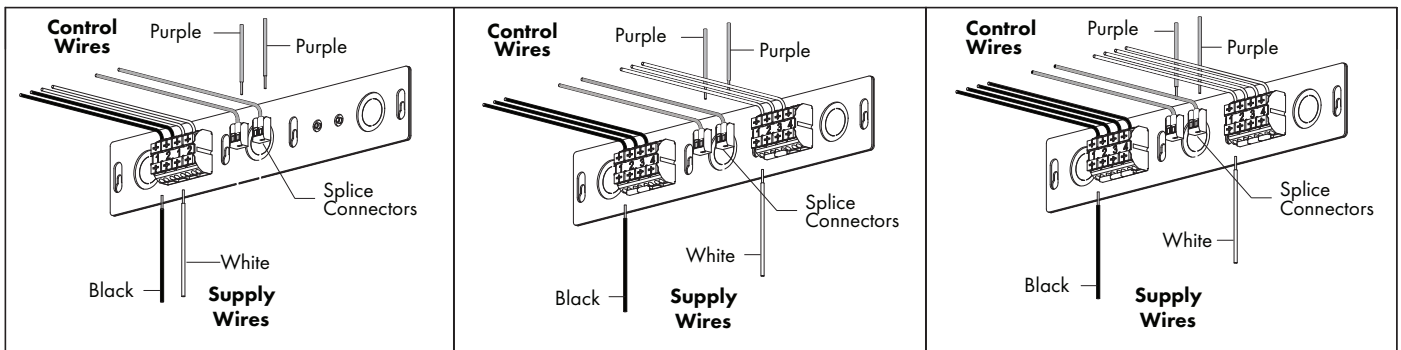

FIG 10.2 Attach Supply & Control Wires
2. Make wire connections noting individual lamp circuit numbers – FIG 10.2.